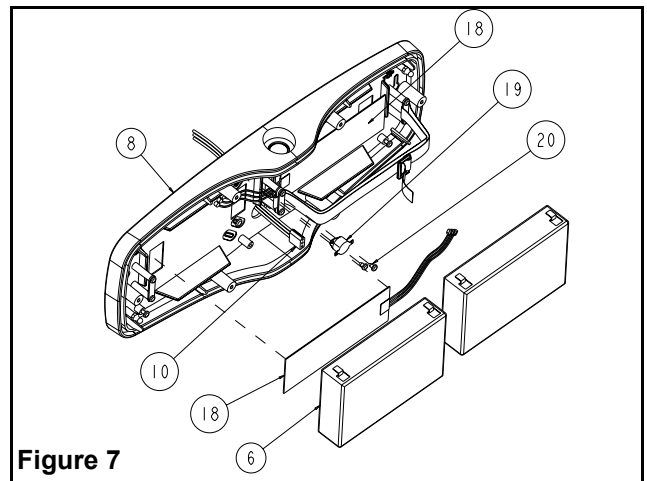

Figure 7
- Connect battery heater (18) to thermostat (19) and to AC harness (10) (see figure 7).